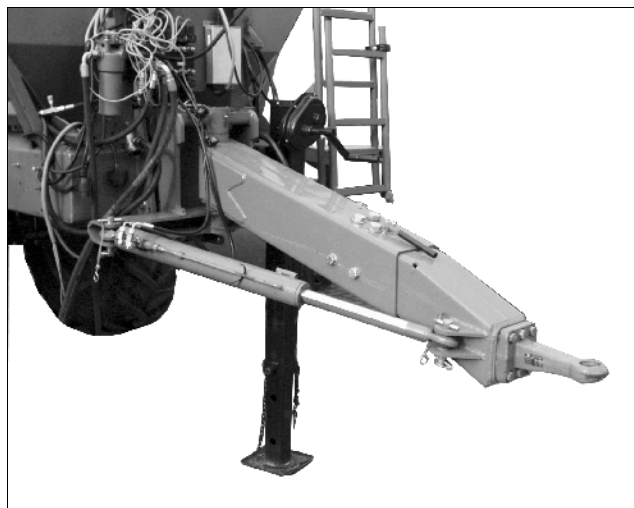

Fig. 10
- Trail-Tron track follow draw bar (Fig. 10) (only **ZG-B 7001 preciS**).